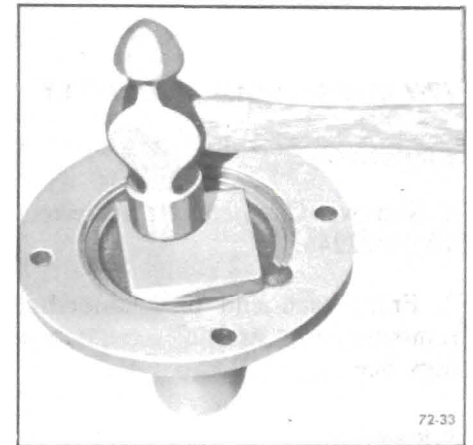

Figure 72-33 - Installing Front Bearing Retainer Seal
1. Using a suitable tool, drive new seal into position. See Figure 72-33.